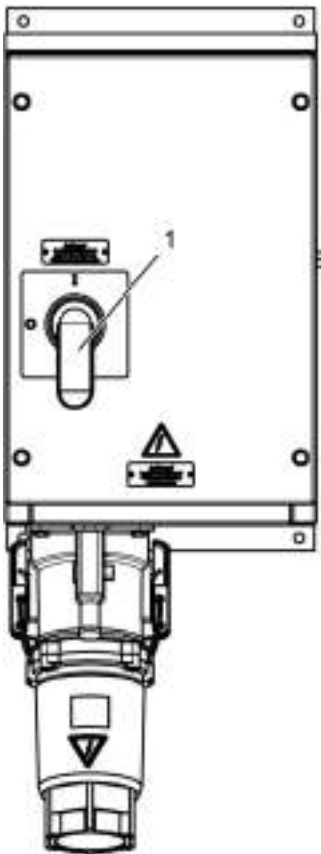

Fig.65: Powering on
2. Turn the circuit breaker to position I (Fig. 65 /1).